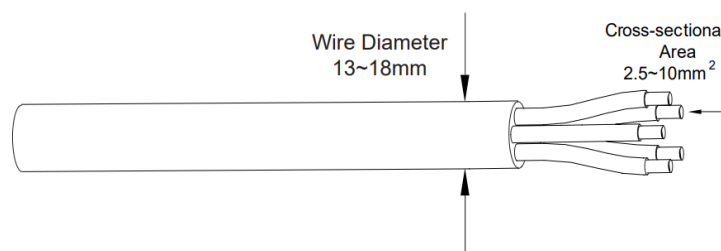

Figure 5-4
- ② According to the figure 5-4, select an appropriate cable, peel the insulation sleeve of AC cable off for 50mm, and peel off the end of 3L /PE / N wires for 8mm.